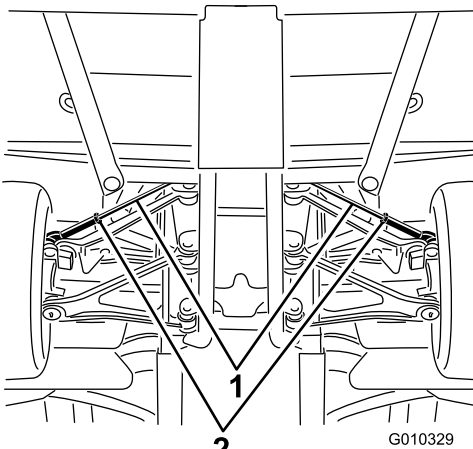

Figure 51
- A. Loosen the jam nut at the center of the tie rod (Figure 51).